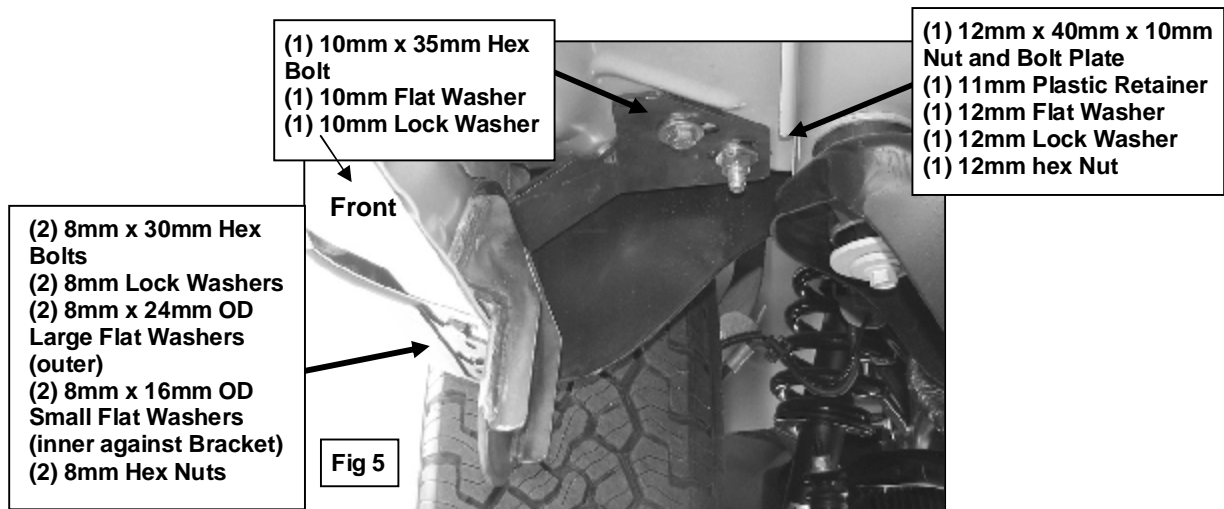

Fig 5
5. Align the holes in the pinch weld with the holes in the front Mounting Bracket. Insert (2) 8mm x 30mm Hex Bolts with (2) 8mm x 24mm OD x 2mm Large Flat Washers up from below and secure with (2) 8mm x 16mm OD x 1.6mm Small Flat Washers, (to clear the bracket), (2) 8mm Lock Washers and (2) 8mm Hex Nuts, **(Figure 5)**. Do not tighten at this time.